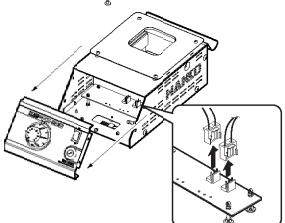

Fig. 4
- Slide the front panel forward, disconnect the two connectors (Fig. 4) from the connector circuit board, and then pull out the units of the heating elements (Fig. 5).